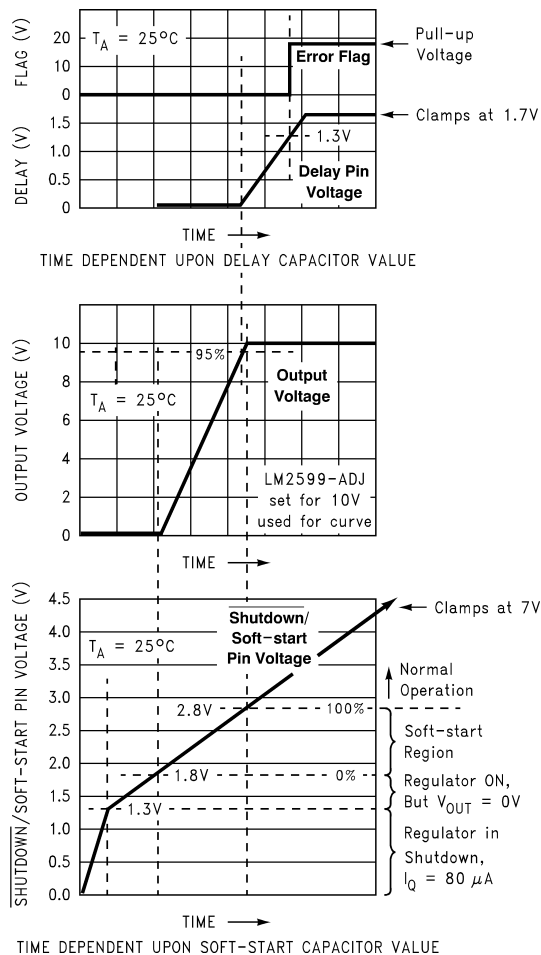
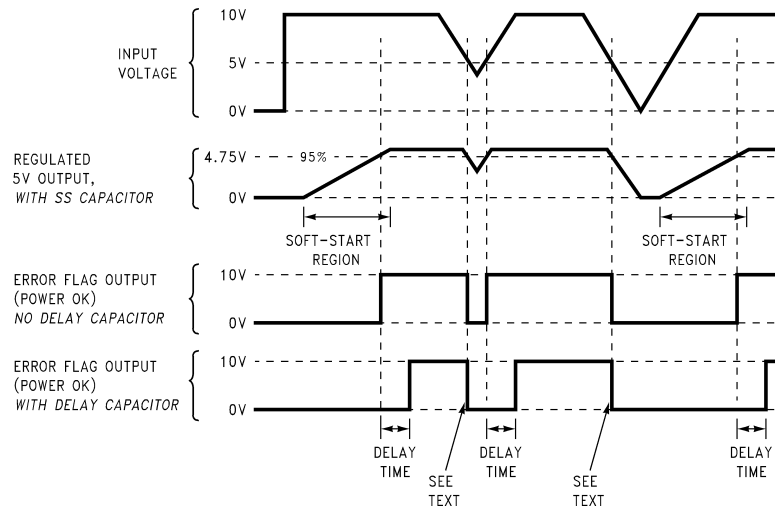

Figure 29. Soft-start, Delay, Error, Output
Figure 30. Timing Diagram for 5V Output
C_{SS} — A capacitor on this pin provides the regulator with a Soft-start feature (slow start-up). When the DC input voltage is first applied to the regulator, or when the Shutdown /Soft-start pin is allowed to go high, a constant current (approximately 5 μA begins charging this capacitor). As the capacitor voltage rises, the regulator goes through four operating regions (See the bottom curve in Figure 29).
3. **Soft-start Region.** When the $\overline{SD}$ /SS pin voltage is between 1.8V and 2.8V (@ 25°C), the regulator is in a Soft-start condition. The switch (Pin 2) duty cycle initially starts out very low, with narrow pulses and gradually get wider as the capacitor $\overline{SD}$ /SS pin ramps up towards 2.8V. As the duty cycle increases, the output voltage also increases at a controlled ramp up. See the center curve in Figure 29. The input supply current requirement also starts out at a low level for the narrow pulses and ramp up in a controlled manner. This is a very useful feature in some switcher topologies that require large startup currents (such as the inverting configuration) which can load down the input power supply.
Note: The lower curve shown in Figure 29 shows the Soft-start region from 0% to 100%. This is not the duty cycle percentage, but the output voltage percentage. Also, the Soft-start voltage range has a negative temperature coefficient associated with it. See the Soft-start curve in the Electrical Characteristics section.
C_{DELAY} — Provides delay for the error flag output. See the upper curve in Figure 29, and also refer to timing diagrams in Figure 30. A capacitor on this pin provides a time delay between the time the regulated output voltage (when it is increasing in value) reaches 95% of the nominal output voltage, and the time the error flag output goes high. A 3 μ A constant current from the delay pin charges the delay capacitor resulting in a voltage ramp. When this voltage reaches a threshold of approximately 1.3V, the open collector error flag output (or power OK) goes high. This signal can be used to indicate that the regulated output has reached the correct voltage and has stabilized.